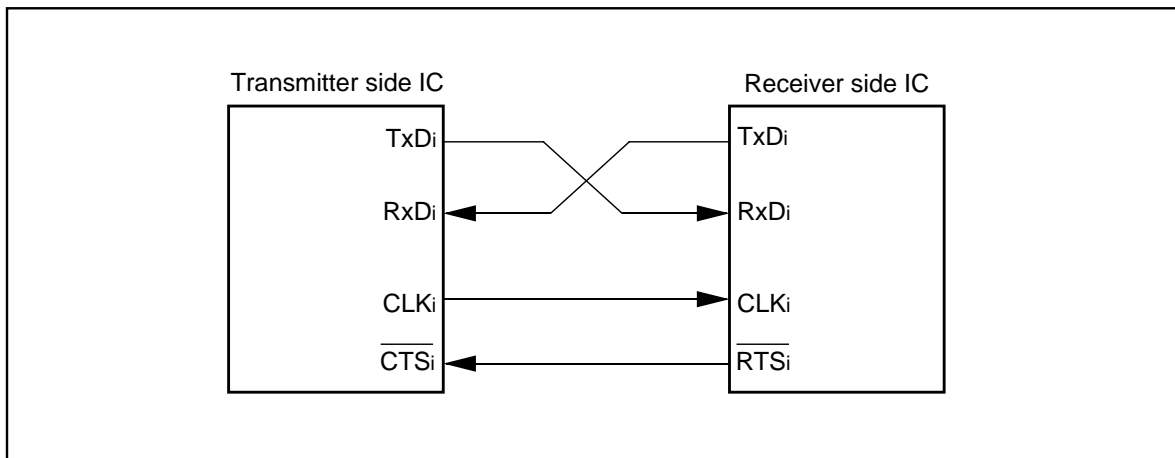

Figure 2.3.11. Example of wiring
- (1) With an external clock selected, and choosing the  $\overline{\text{RTSi}}$  function, the output level of the  $\overline{\text{RTSi}}$  pin goes to "L" when the data-receivable status becomes ready, which informs the transmission side that the reception has become ready. The output level of the  $\overline{\text{RTSi}}$  pin goes to "H" when reception starts. So if the  $\overline{\text{RTSi}}$  pin is connected to the  $\overline{\text{CTSi}}$  pin on the transmission side, the circuit can transmission and reception data with consistent timing. With the internal clock, the  $\overline{\text{RTS}}$  function has no effect. Figure 2.3.11 shows an example of wiring.